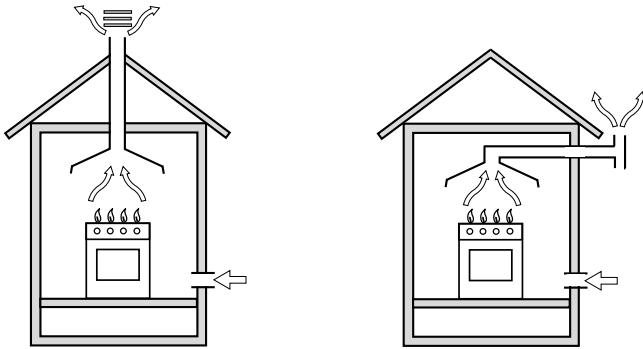

Fig. 1
- The appliance must discharge combustion products into a special hood, which must be connected to a chimney, flue pipe or directly to the outside (Fig.1).